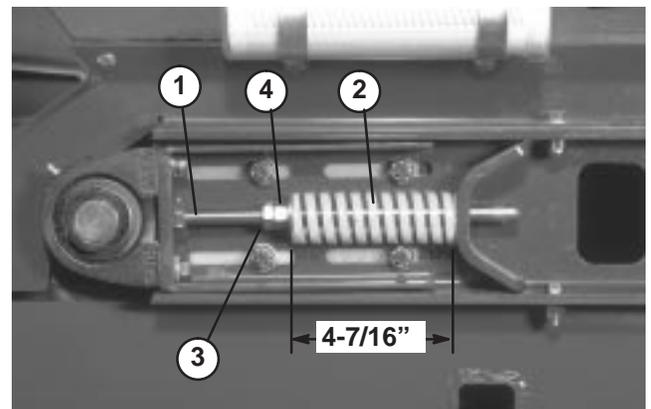

Figure 23
1. Loosen jam nuts and adjust tension rod (Fig. 23) nuts to attain desired tension.